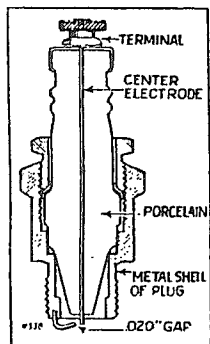

Fig. 4.
cracked or broken so that the spark jumps from the center electrode through to the shell of the spark plug and does not jump at the gap inside of the cylinder (see Fig. 4). This, of course prevents the motor from firing. The simplest way to check a spark plug is to try a new one and you will find it advisable to have a spare spark plug on hand for testing. If the motor starts with the new plug, then you know that the old one is at fault and should be discarded. The gap at the spark plug should be somewhat less than  $1/32''$  (.020" to be exact).
43. Spark Plug. A sectional view of the spark plug is shown in Fig. 4. on page 9. The purpose of the porcelain is to prevent the spark from jumping anywhere except at the gap in the cylinder. If the porcelain is cracked or broken, however, the spark may jump through to the shell of the spark plug. This will prevent the motor firing. Water on the outside of the spark plug may permit the high voltage spark current to leak over the surface of the porcelain. Carbon deposits on the porcelain inside of the cylinder will do the same thing. The spark plug should, therefore, be removed to see that the porcelain is not heavily coated with carbon. It can be cleaned by taking the plug apart and washing off the carbon with gasoline or cleaning with some kitchen scouring powder. When the plug has been put together again, the gap should be set at .020".